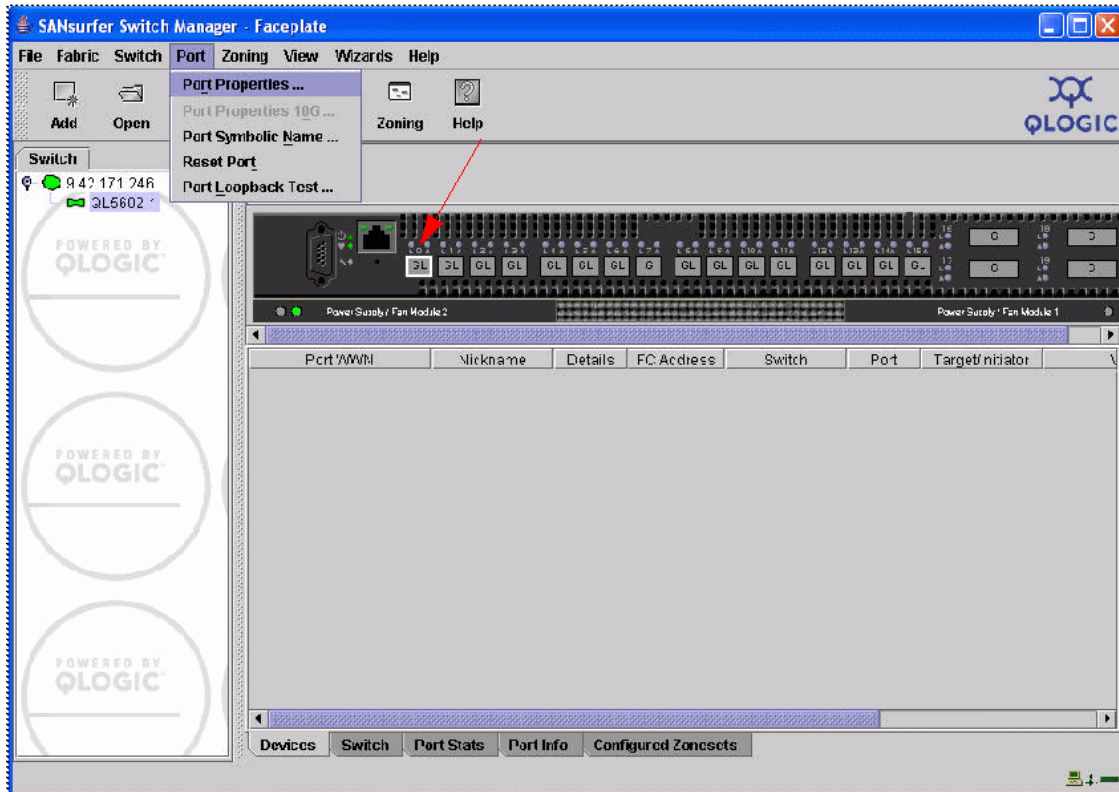

Figure 7-9 Port Properties window
11. On the Faceplate, select the port to which you will connect your storage. Select **Port** → **Port Properties** (Figure 7-9). In our example, we selected port 0.